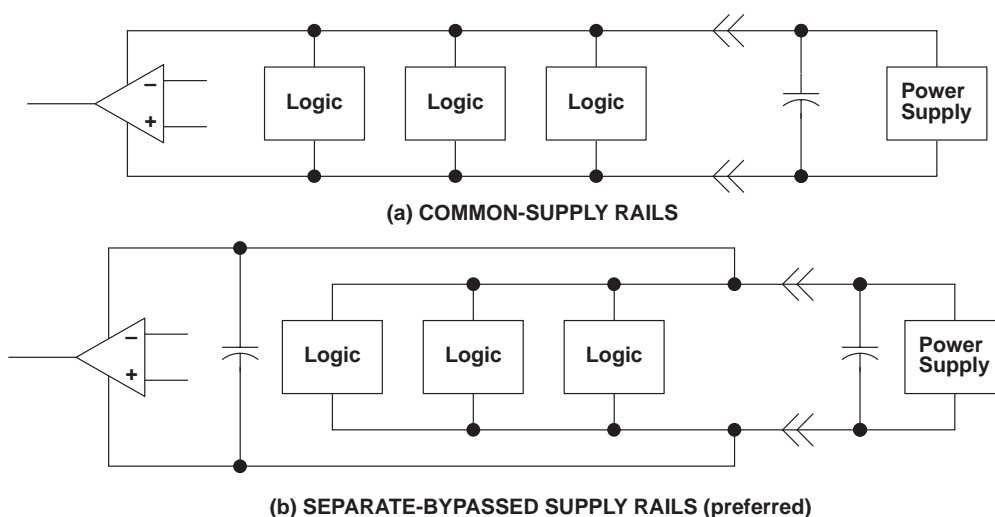

Figure 40. Common Versus Separate Supply Rails
- Power the linear devices from separate bypassed supply lines (see Figure 40); otherwise, the linear device supply rails can fluctuate due to voltage drops caused by high switching currents in the digital logic.